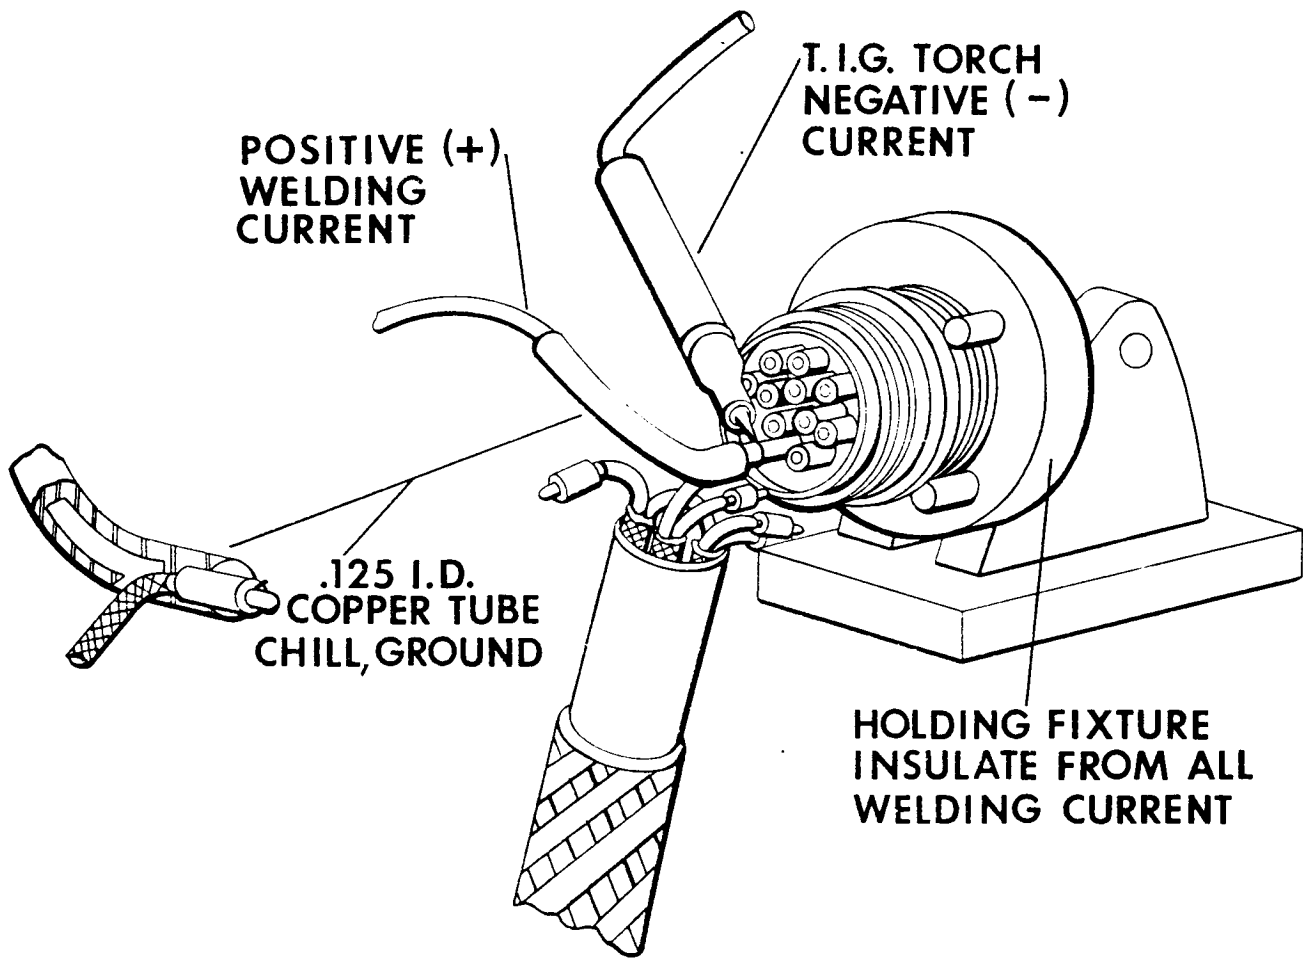

Figure 2
2. Hold connector in a suitable holding device insulated from all welding current as shown in Figure 2. Starting at center of connector arrangement, insert conductor assembly into contact wire well using chill/ground tool equivalent to Figure 2 and weld as follows:
3. Copper chill fixture equivalent to Figure 2.
1. Termination of size 16 contacts is accomplished using the same method except for setting and equipment changes. When welding the wire to the adapter and conductor assembly to the contact wire well the following setting should be used: 15% of low range direct current straight polarity using high frequency starting current. (Actual welding current 20 amps \pm 5 amps). When welding the conductor assembly into the size 16 contact wire well a copper chill such as shown in Figure 2 should be used(See Next page)